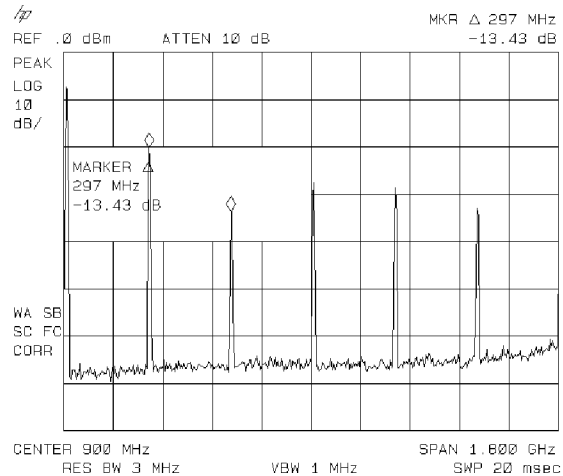

Figure 6-13. Using the Marker Delta Function
4. The amplitude and frequency difference between the markers is displayed in the active function block and in the upper right corner of the screen. See Figure 6-13.